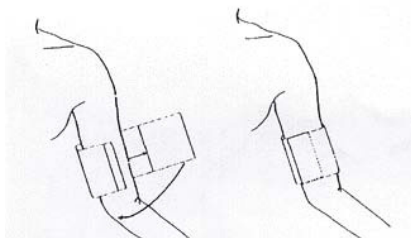

Figure 26
2. Apply the blood pressure cuff to the patient's upper arm following the instructions below (Figure 26).